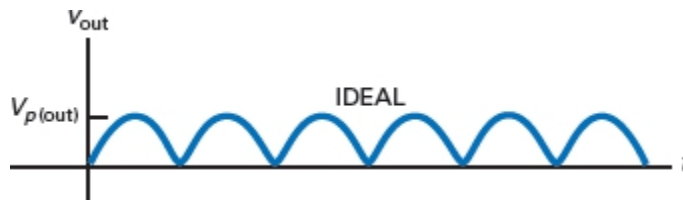

Figure-43 Full-wave output
- During both half-cycles, the load voltage has the same polarity and the load current is in the same direction. The circuit is called a full-wave rectifier because it has changed the ac input voltage to the pulsating dc output voltage shown in Figure-43. This waveform has some interesting properties that we will now discuss.
(If there is any doubt in your mind, compare Figure-43 to Figure-35.) When we calculate the output frequency, we get: